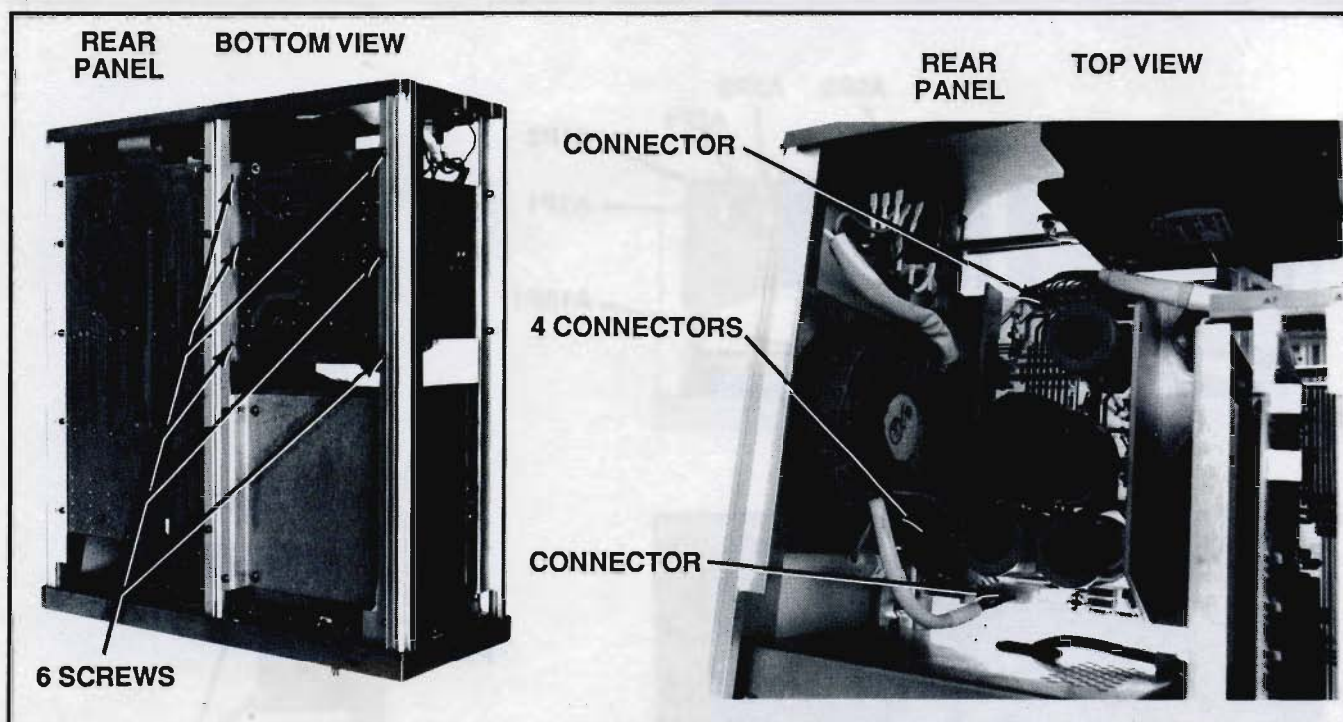

Figure 4-2. Replacing the A12 Power Supply PCB
1. Turn the instrument on its side and remove the six screws from the bottom with a phillips-1 screwdriver (Figure 4-2).